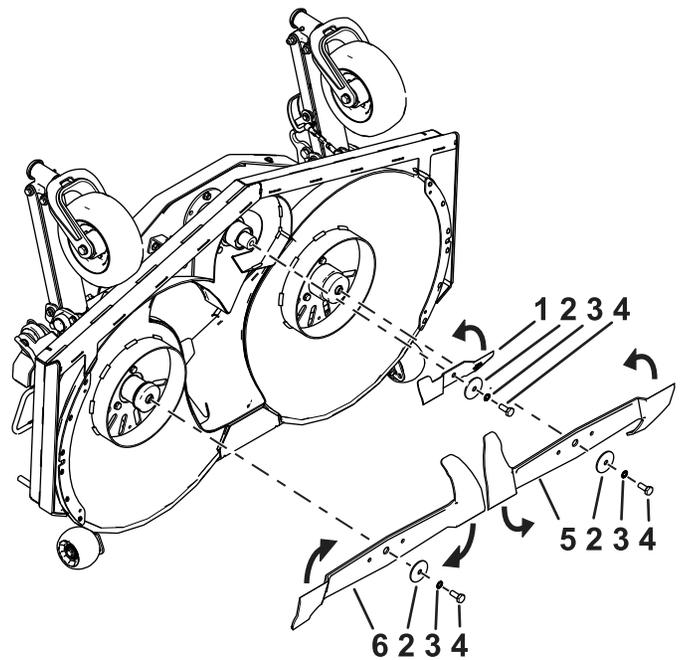
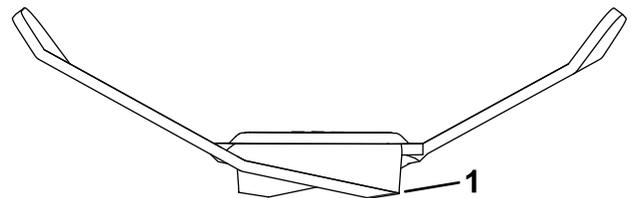

Figure 89
Figure 90
2. Inspect the cutting edges (Figure 89 and Figure 90).
2. Remove the blade bolt, spring lock washer, curved washer, and blade from the spindle shaft (Figure 89).
1. Use a file or sharpening tool to sharpen the cutting edge at both ends of the blade (Figure 90).
Note: Refer to Figure 89 for the correct blade rotation and installation.
2. Install the blade using the previously removed blade bolt, spring lock washer, and curved washer (Figure 89).